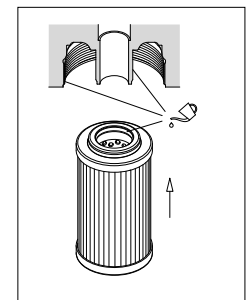

fig. 10
- (Fig. 10) Lubricate with the operating fluid the filter element O-ring, the housing tap and cavity, then fit the filter element on the tap. Pay attention not to damage the O-ring seal.